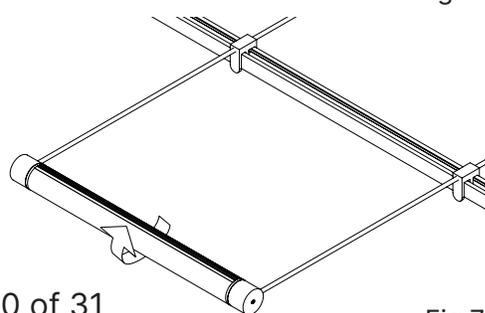

Fig. 7
3. Place the index and middle fingers of each hand on the **Hanger Rods** on either side of the **Ladder Light** and press firmly on both sides of the Ladder Light with the thumbs until the Ladder Light fully clicks into place (Fig. 7).
2. Insert **Luminaire** onto **Hangers** and secure with **Set Screws** (Fig. 7). **Note: Luminaire can rotate 360° (Fig. 7)**